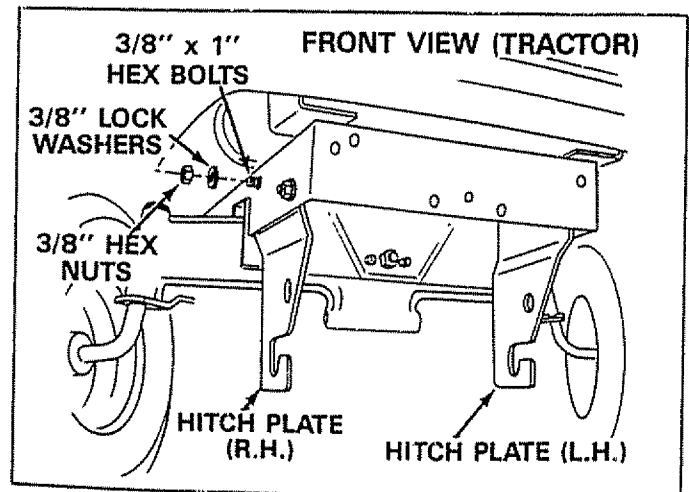

FIGURE 5
1. Assemble right hand and left hand hitch plates inside tractor frame (near front) using two 3/8" x 1" hex bolts from inside of each plate. See figure 5. Secure with two 3/8" lock washers and two 3/8" hex nuts outside frame on each side. **Note:** Offset on each plate must be toward inside, as shown in figure 5.